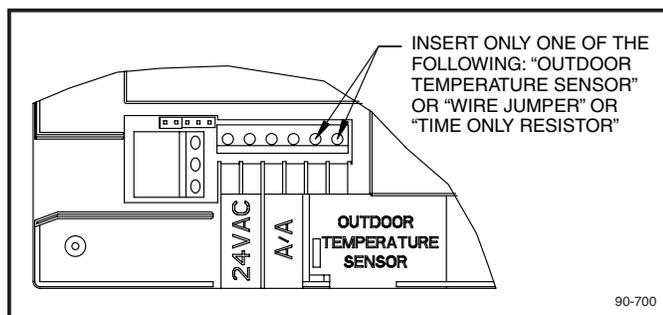

FIGURE 7 – OUTDOOR TEMPERATURE SENSOR TERMINAL
Wiring across the outdoor temperature sensor terminals T-T (see Figure 7) can be done in three different ways depending upon the mode of operation for the ventilation controller.
1. If the Outdoor Temperature Sensor (see Figure 7) is connected, the Controller will use Outdoor Temperature and Indoor Humidity, along with the user-adjustable timer settings, to determine when to ventilate. **This is the recommended installation** as the Controller will prevent extreme hot, humid, or cold air from entering the home, all of which could have negative effects on comfort and energy costs. For this installation, go to the following section "Location & Wiring of Outdoor Temperature Sensor".